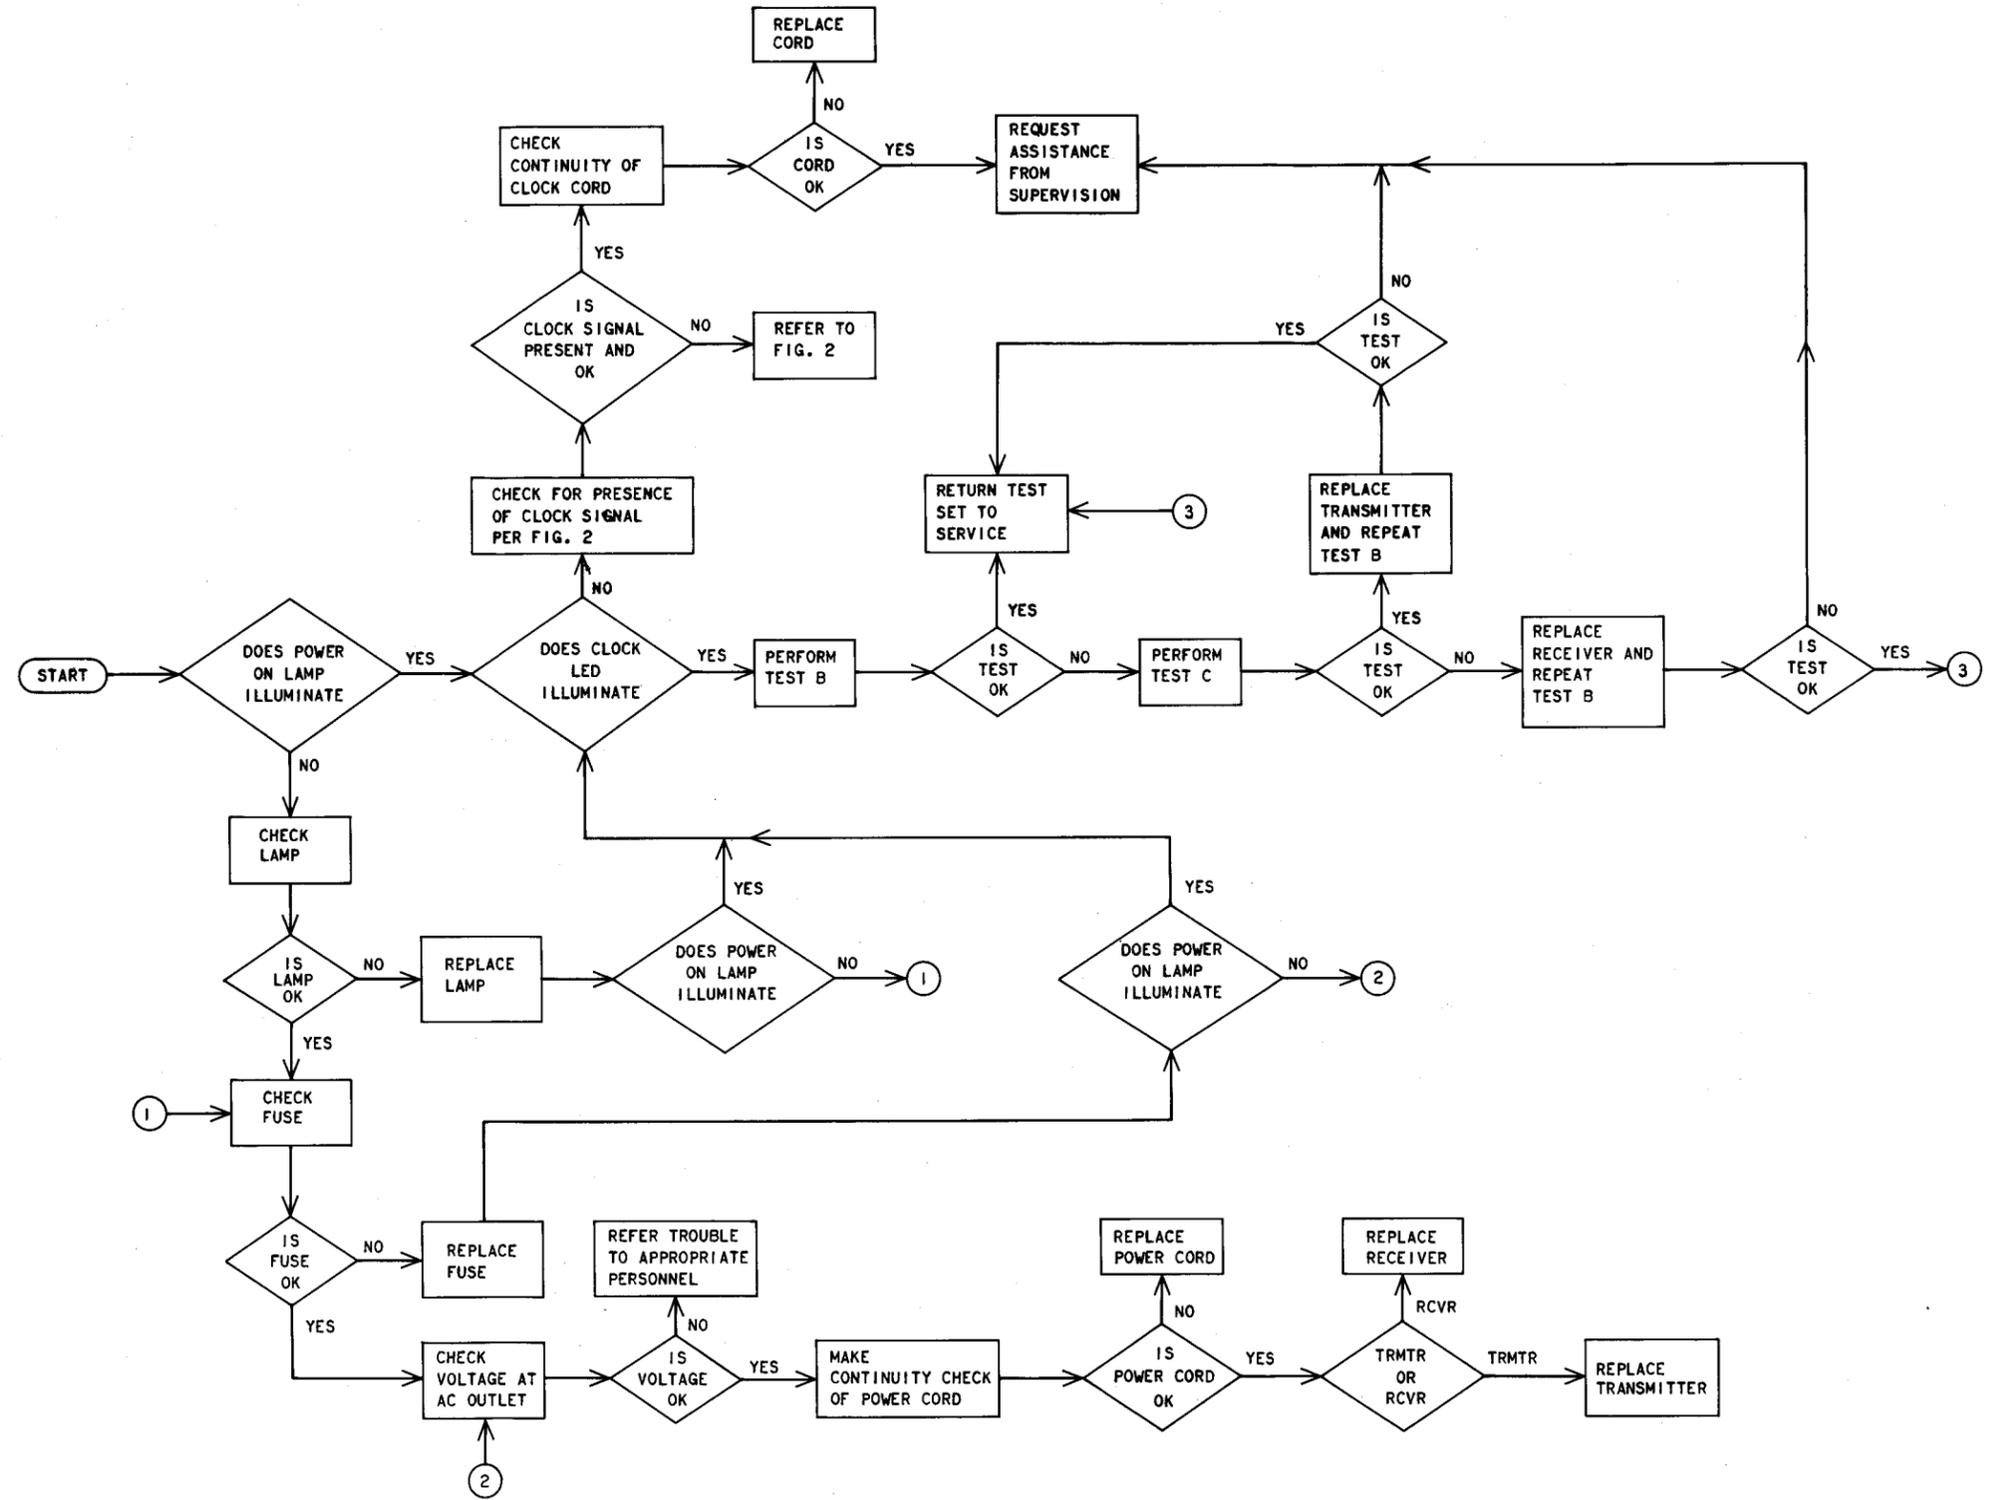

Fig. 1—Troubleshooting Flowchart for KS-20908 and KS-20909 Data Test Sets
**4.02** The following flow diagrams (Fig. 1 through 12) will aid in locating defective components in the testboard. The tests referred to in the flow diagrams can be found in Section 666-600-500.